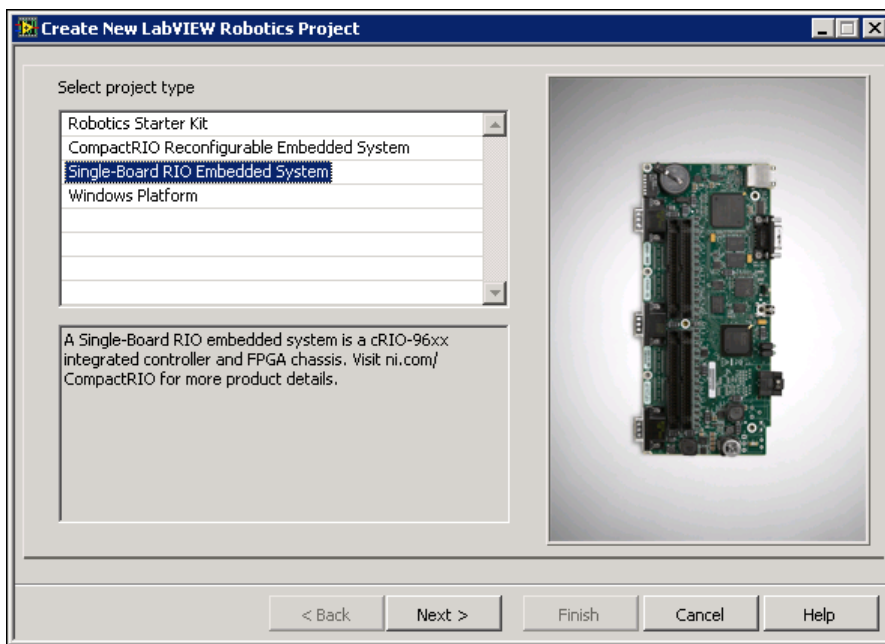

Figure 4. Selecting a Project Type for Your Application
2. Select the type of project that corresponds to your system from the **Select project type** list, as shown in Figure 4.